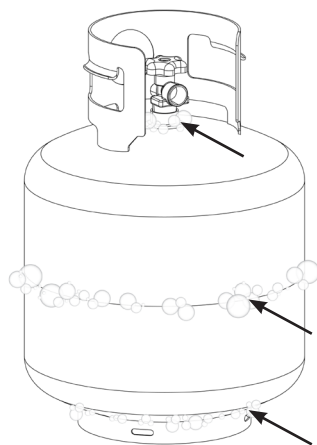

Figure 01
1. Use a clean paintbrush to brush a 10/90 mild soap and water solution onto joint areas of the LPG cylinder. (Indicated by arrows in Figure 01).